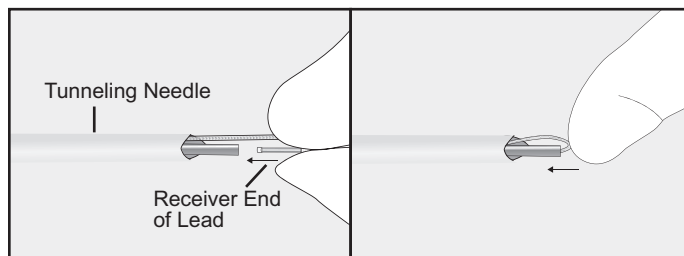

Figure 30: Inserting Receiver End of the StimRouter Lead
8. Insert the receiver end of the StimRouter Lead into the distal end of the Tunneling Needle, and push the lead loop until there is no slack in the lead (see Figure 30). If forceps are used, take care not to pinch or damage the lead. Non-toothed forceps are recommended.